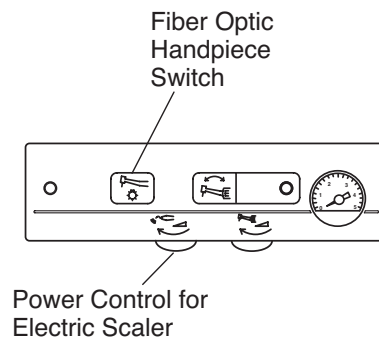

Fig. 3-7 Membrane Switch B
8. FIBER OPTIC HANDPIECE (OPTION) (Fig.3-7)
9. ELECTRIC SCALER (OPTION) (Fig.3-7)